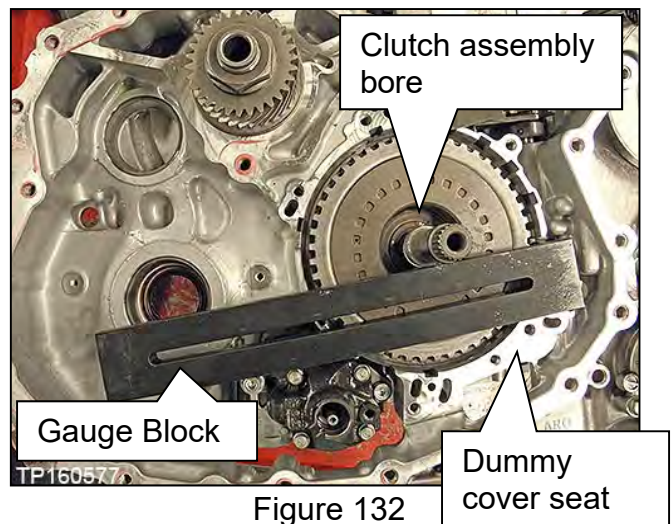

Figure 132
- a. Position the Gauge Block over the clutch assembly bore on the surface where the dummy cover seats (Figure 132).